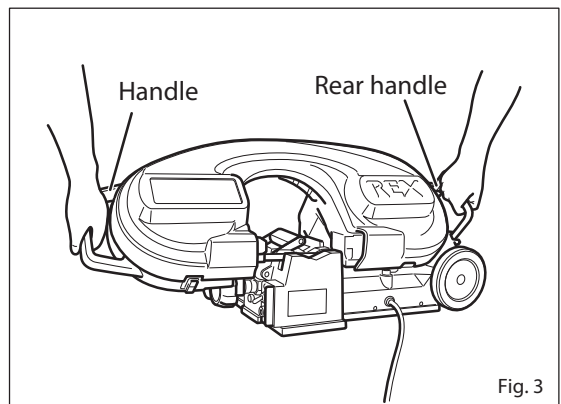

Fig. 3
(2) When moving the unit by carrying it, lift it from both the front and rear handles. DO NOT TRY TO LIFT IT BY YOURSELF. The unit should always be carried by two or more people. (Fig. 3)